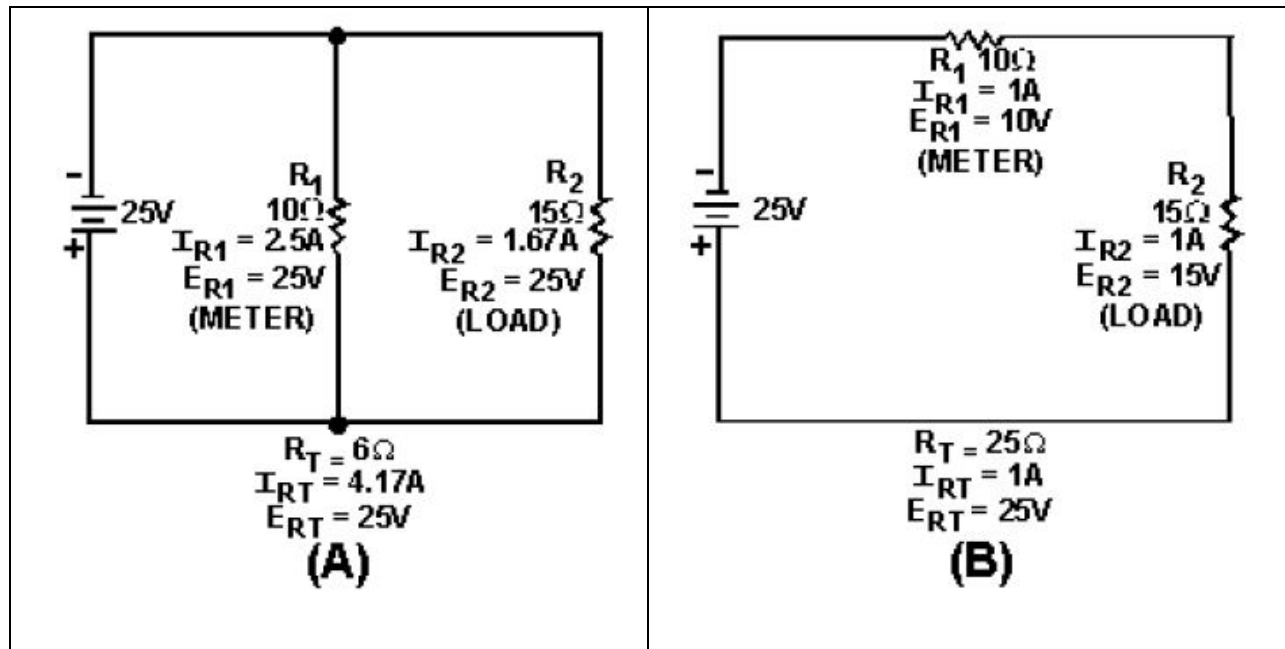

Figure 22: Current and voltage in series and parallel circuits.
Figure 22 (and the following figures) use resistors to represent the voltmeter movement. Since a meter movement can be considered as a resistor, the concepts illustrated are true for voltmeters as well as resistors. For simplicity, dc circuits are shown, but the principles apply to both ac and dc voltmeters.
Figure 22(A) shows two resistors connected in parallel. Notice that the voltage across both resistors is equal. In Figure 22(B) the same resistors are connected in series. In this case, the voltage across the resistors is not equal. If R_1 represents a voltmeter, the only way in which it can be connected to measure the voltage of R_2 is in parallel with R_2 , as in Figure 22(A).